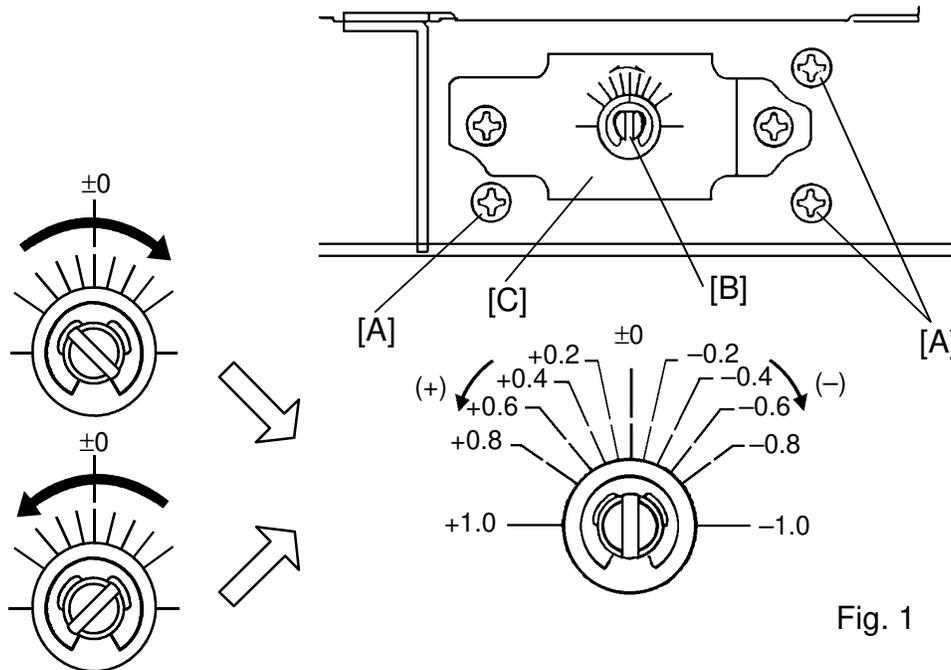

Fig. 1
2. Turn the adjustment cam [B] which points to the scale (± 0) on the bracket [C] as shown in figure 1.